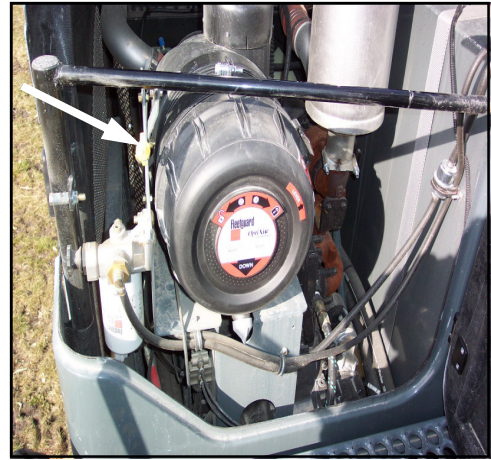

FIG 7.1B-1
**OIL LEVEL**-The engine oil level dipstick is located on the left-hand side of the engine (fig. 7.1B-1). Never operate the engine with the oil level below the “L” (low) mark or above the “H” (high) mark. Wait at least five minutes after shutting off the engine to check the oil level, this allows the oil to drain to the oil pan. Check the engine oil level daily.